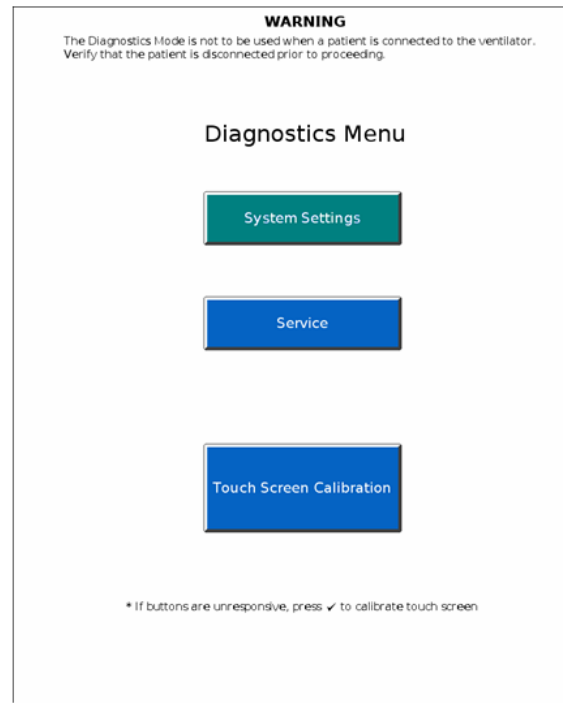

Figure E-1: Diagnostics Menu
- 3 Within less than 5 seconds, release and press the Accept button again. The **Diagnostics Menu** (Figure E-1) is displayed.